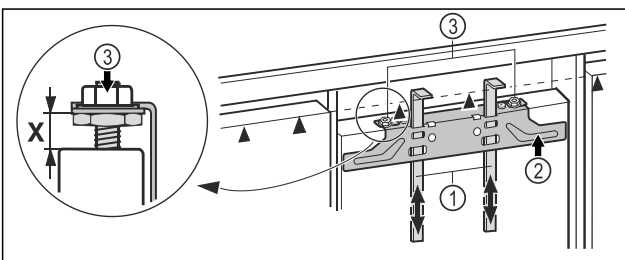

Fig. 14
- Push the assembly aids Fig. 14 (1) up to unit door height. Lower stop edge ▲ of the assembly aid = upper edge of the unit door to be assembled.
- Unscrew the fastening bar Fig. 14 (2) using the lock nuts Fig. 14 (3).